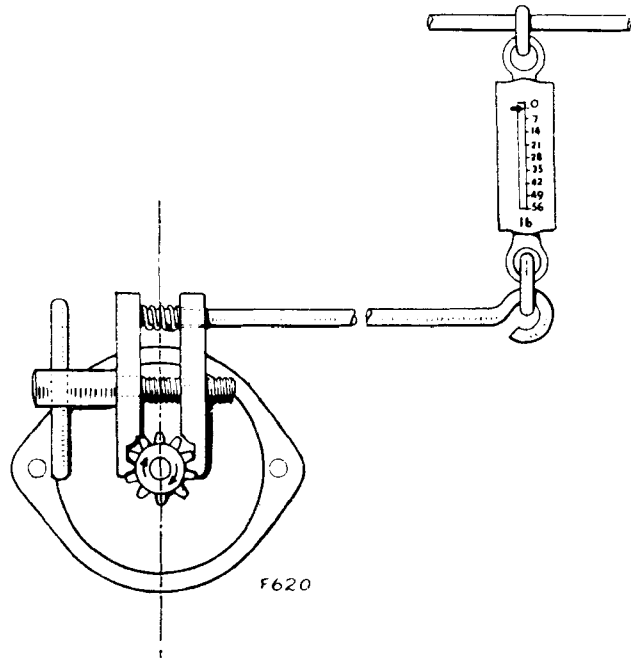

Fig. 37. Measuring lock torque
4. Provide suitable equipment to measure lock torque. See Fig. 37.